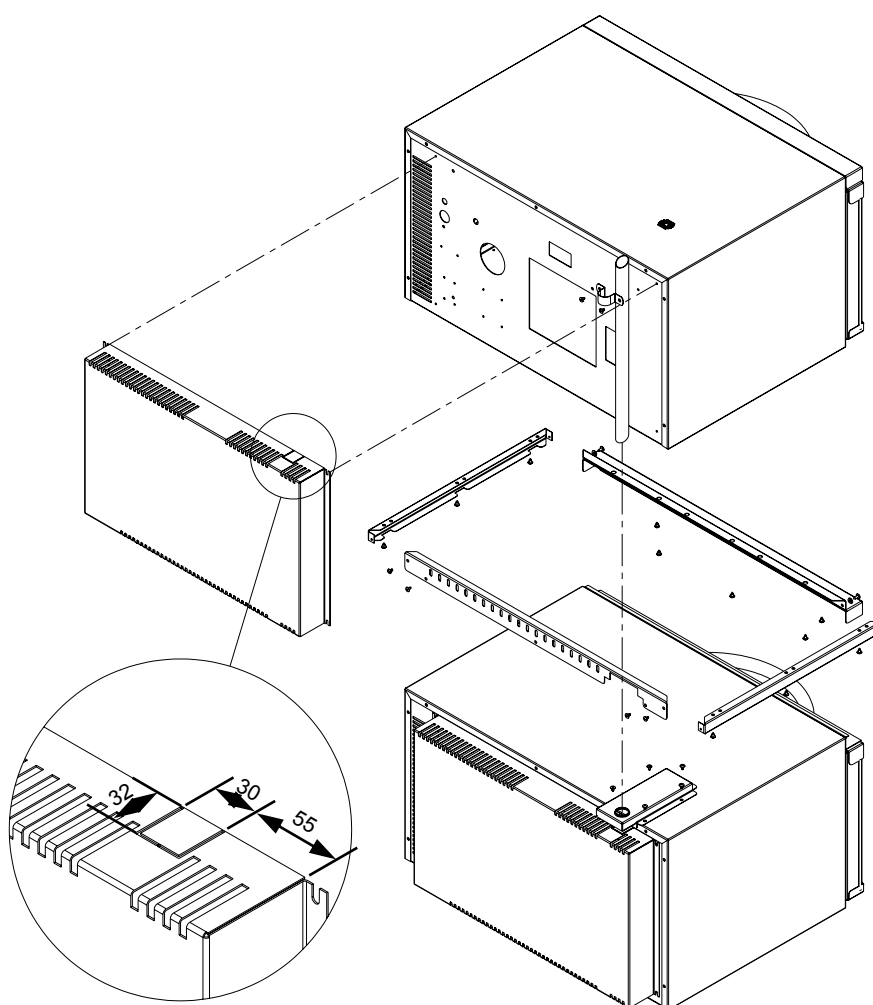

Figure A.2
C. **Stacking the Ovens** (Refer figure A.2)